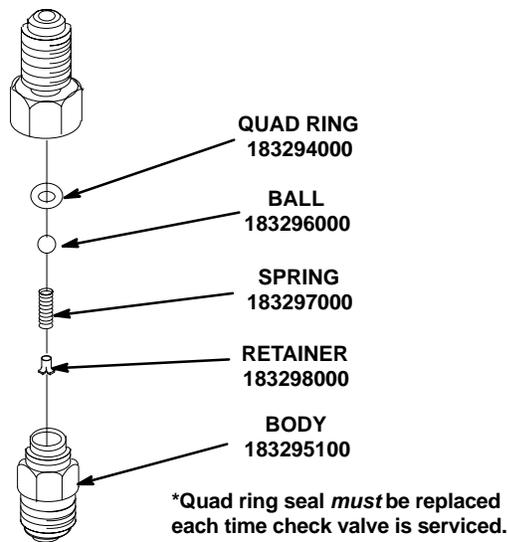

FIGURE 6. CO₂ GAS CHECK VALVE
6. Disassemble check valve as shown in Figure 6.
8. Reassemble the check valve as shown in Figure 6. ALWAYS INSTALL NEW QUAD RING SEAL.